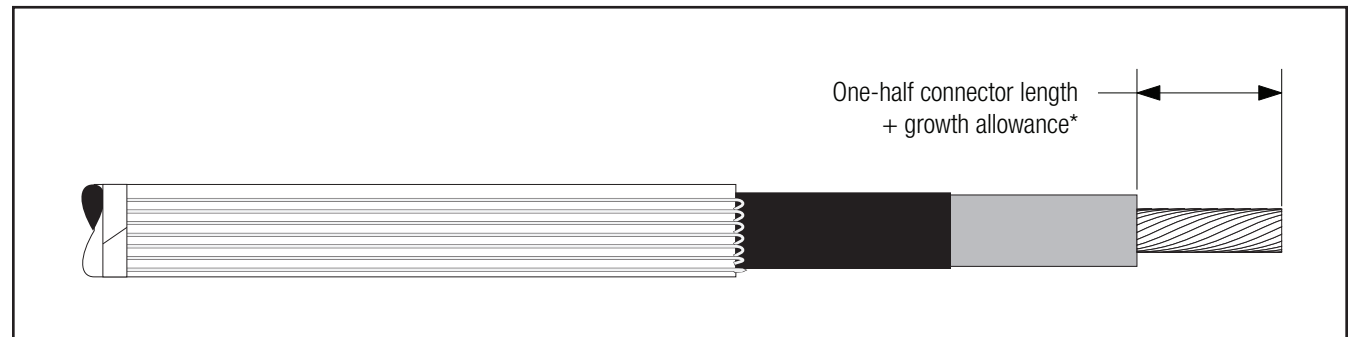

Figure 6
3.3 If using a crimp type connector, remove cable insulation for 1/2 connector length plus an allowance* for increases in connector length due to crimping. Insulation removal length shall not exceed 3 3/4" (95 mm) from conductor end. **Do not install connector now** (Figure 6).